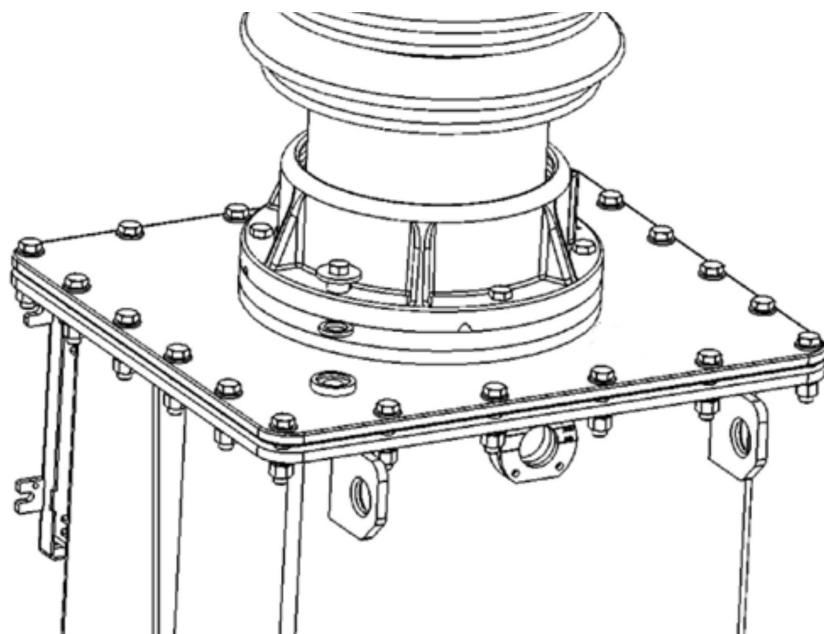

Figure 12. Oil filling and sampling pluses on the electromagnetic unit
- First open the oil filling plug; see Figures 12.